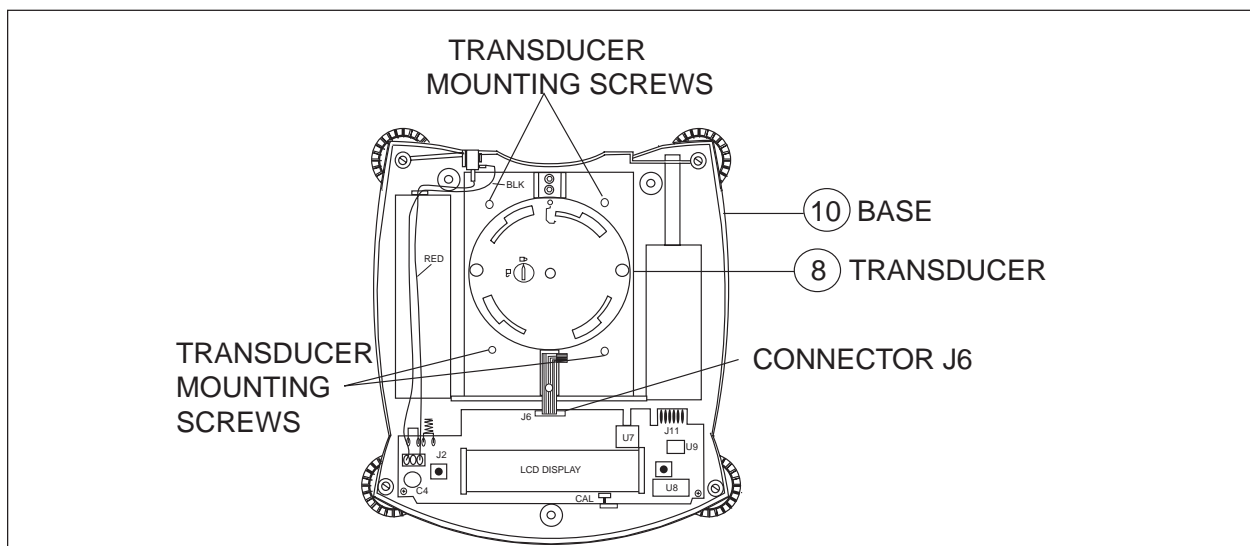

Figure 3-4. Transducer Removal.
2. Remove the 4 screws that secure the Transducer (8) to the Base (10). The screws are accessible at the bottom of the balance. See Figure 3-4.